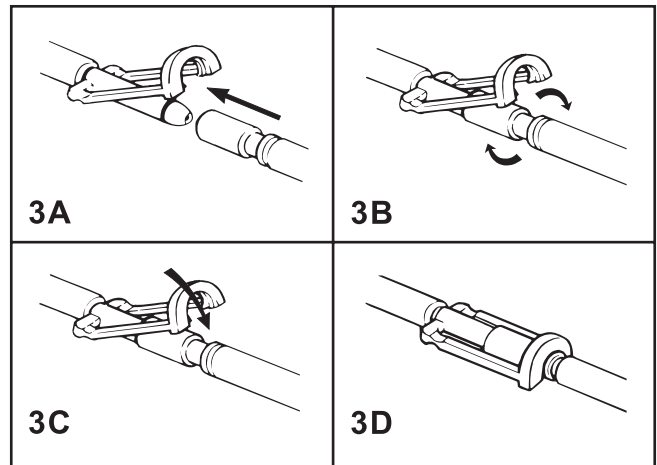

Figure 3A-3D-Clik-Tite® Connectors
- 1 Insert male fittings into female fittings with a twisting motion (figs. 3A and 3B).